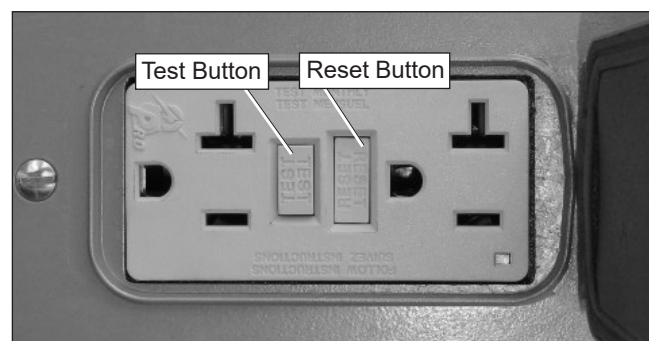

Figure 7.13 – Electrical Power Outlet
1. Push the test button (refer to Figure 7.13).